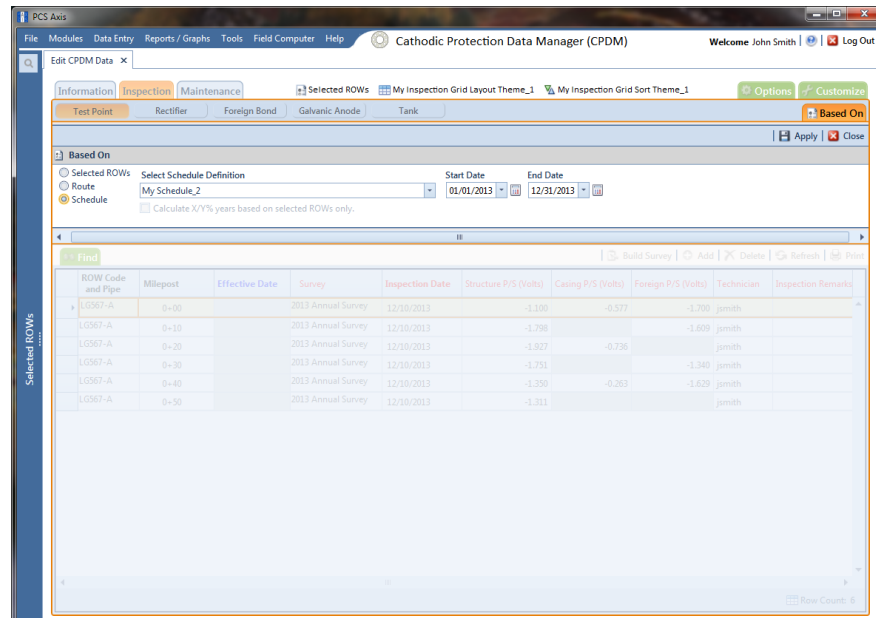

Figure 7-55. Based On Schedule Option
- 5 Click the **Based On** tab  to open the based on panel. Then select the **Schedule** option (Figure 7-55).